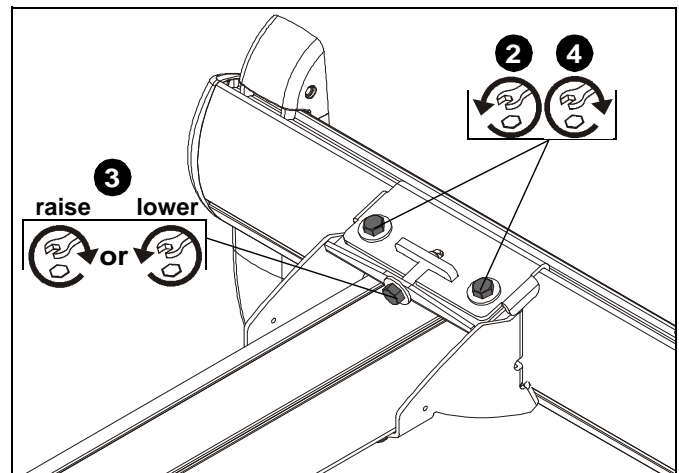

Figure 66
- Loosen two bolts on either side of pitch adjustment screw. (See Figure 66)
- Adjust pitch adjustment screw until mount is at desired pitch level. Turn clockwise to raise mounting level or turn counterclockwise to lower mounting level. (See Figure 66)
- Tighten two bolts on either side of pitch adjustment screw. (See Figure 66)